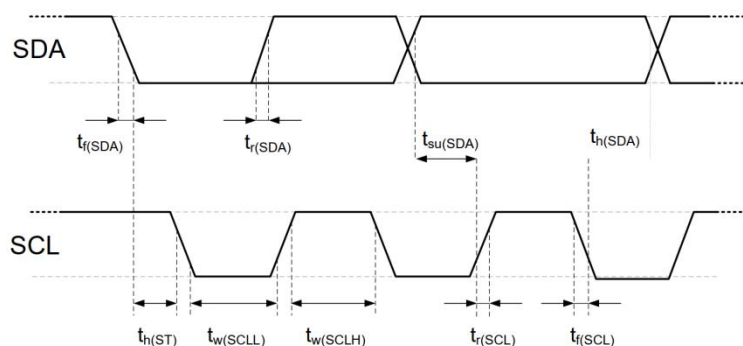

Figure 9. Timing diagram of digital input / output
The SDA pin is used for data input and output of the sensor. When sending a command to the sensor, SDA is valid on the rising edge of the serial clock (SCL), and when SCL is high, SDA must remain stable. After the falling edge of SCL, the SDA value can be changed. To ensure communication safety, the effective time of SDA should be extended by T_{SU} and T_{HO} before the rising edge and after the falling edge of SCL refer to Figure 9. When reading data from the sensor, SDA is valid (TV) after SCL goes low, and is maintained until the next falling edge of SCL.
Electrical characteristics, such as power consumption, input and output high and low voltages, etc., depend on the power supply voltage. In order to make the sensor communication smooth, it is very important to ensure that the signal design is strictly limited to the range given in Table 7, 8 and Figure 9).
The meaning is shown in Figure 9. Unless otherwise noted